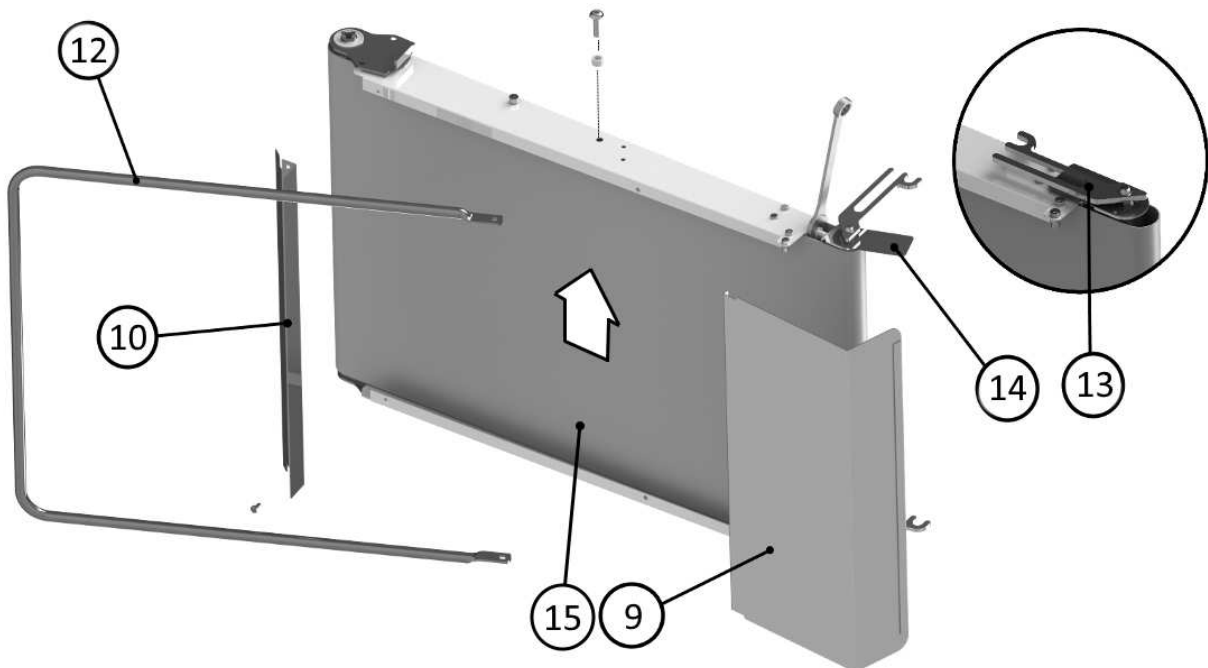

Figure 14
- Remove the elastic plug ref. 1 of the handle and slide it out, ref. 2
- Remove the toothed sector ref. 3 by unscrewing the two side screws
- Remove the 4 screws that fasten the front guard and remove it, ref. 4
- Insert a pin punch in the pinion hole ref. 6 to prevent the cylinder from rotating; then completely unscrew screw ref. 7 using a hexagonal wrench AC6. Once the screw has been removed, the gear unit will be completely released from the table
- Lift the cover ref. 5 from the table
- Lift the table to be removed and lock it in position. Unscrew the two screws ref. 8 located just under the table, on the left and on the right
- Remove the dough collection tray ref. 9 and the guard ref. 10 (Figure 14)
- Unscrew the two screws ref. 1 located just over the table, on the left and on the right
- Remove the table support ref. 12 and completely loosen the belt, as illustrated in chapter 4.3
- Bring back the rolling pin support ref. 13 and the protection sheet ref. 14 to the closing position (see Figure 14)
- Remove the belt ref. 15 holding it vertically and replace it with a new one
**Attention: when the screw ref. 7 is screwed back in, ensure that the coupling is fitted correctly and then fasten the screw using a Torque wrench (43Nm)**